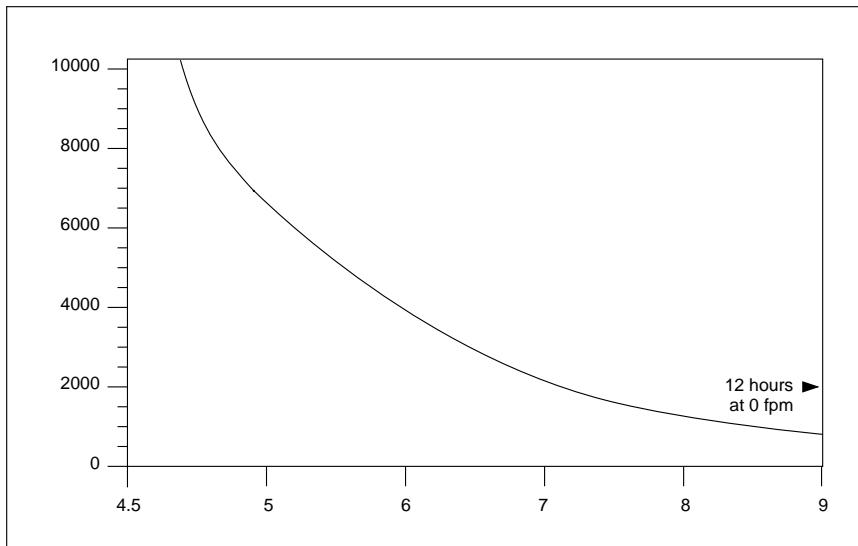

Figure 2
- Ni-Cad rechargeable batteries; charger operates on 115/230 VAC, 50/60 Hz power; operates up to 8 hours between charges at 1250 fpm, 6 hours at 6000 fpm, and 5 hours at 12,000 fpm. See Figure 2.
5. If long term measurements of several hours are being made, check Figure 2 for the expected battery life before recharging as necessary.